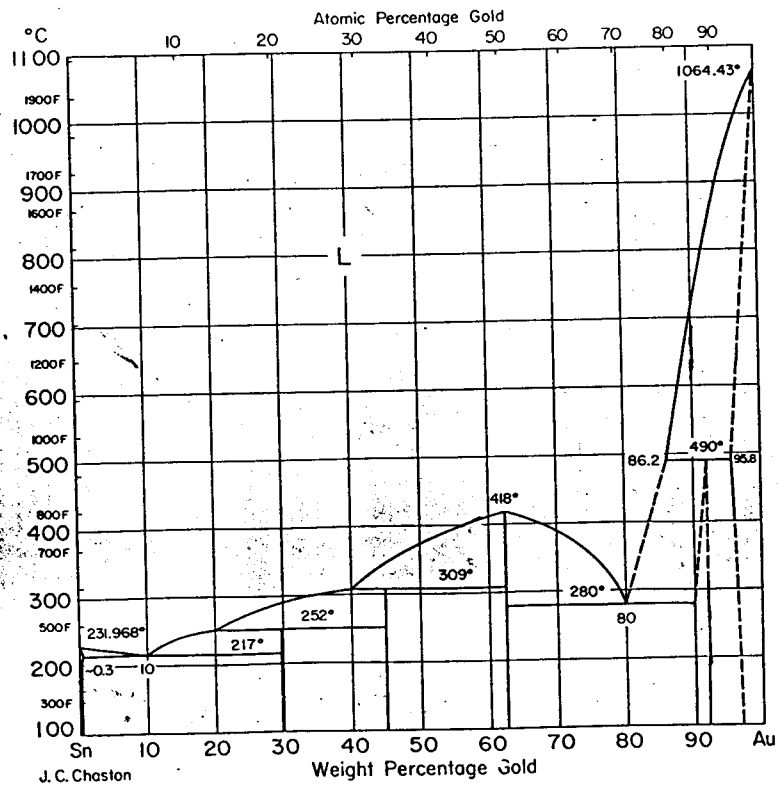

Figure 2
- (c) Label the Gold-Tin phase diagram in Figure 2.